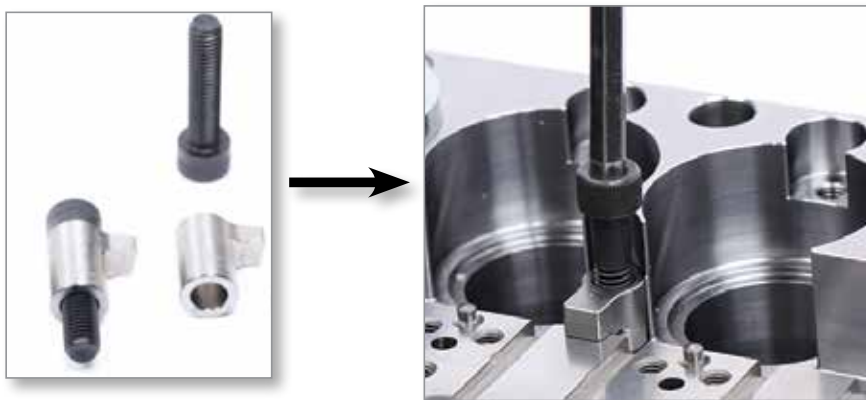

Figure 5-98 Install side clamp - specific systems only
6. For 8-drop Melt-Cube systems with either a 40 or a 50 mm pitch, a side clamp must be installed and tightened to 10 Nm (7.5 ft.-lb). See Figure 5-98.